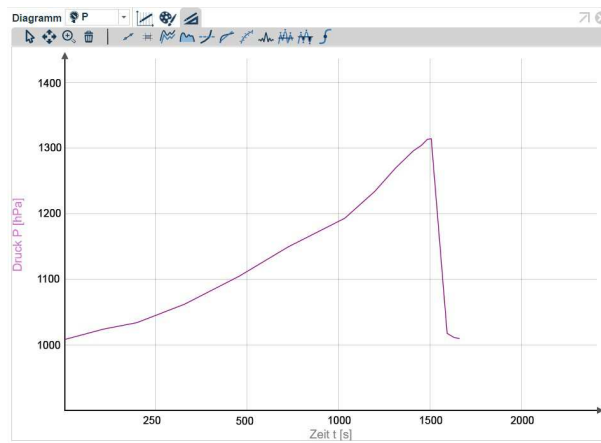

Fig. 7: Measurement result when an acid buffer solution is added
- Experiment 1 (normal conditions):** The curve rises significantly. After approximately 40 minutes, at a pressure of approximately 1150 hPa, the rubber stopper was pushed out of the Erlenmeyer flask (Fig. 7).